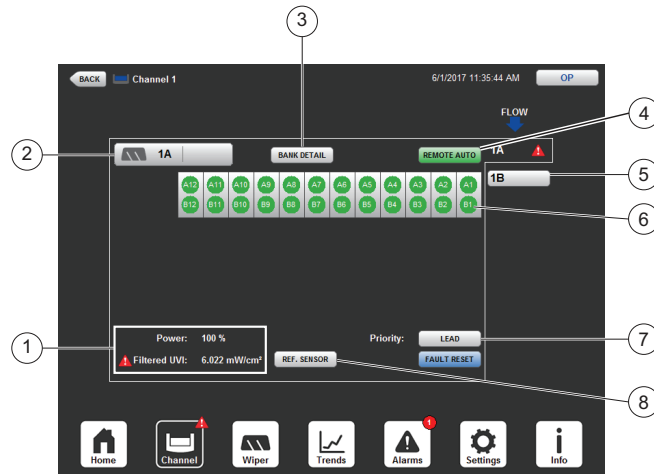

Figure 32 UV Bank Overview Screen
In the event of low water conditions, the following text “LOW WATER” will display beside the Bank Mode Button (Figure 32) in yellow (warning) or red (alarm) color.
In the event of the UV Bank not fully lifting down into the Bank Frame, the following text “NOT IN PLACE” will display beside the Bank Mode Button (Figure 32) in red (alarm) color.
1. Press the Bank Mode Button → REMOTE OFF or REMOTE ON or REMOTE AUTO (from the Remote Mode pane) (Figure 32, Item 4).
2. From Remote - Enable PDC Remote Control (Section 8.2.1) → At the HMI → Press the Bank Mode Button (Figure 32, Item 4) → REMOTE OFF.
1. Press the bank priority button (Figure 32, Item 7).